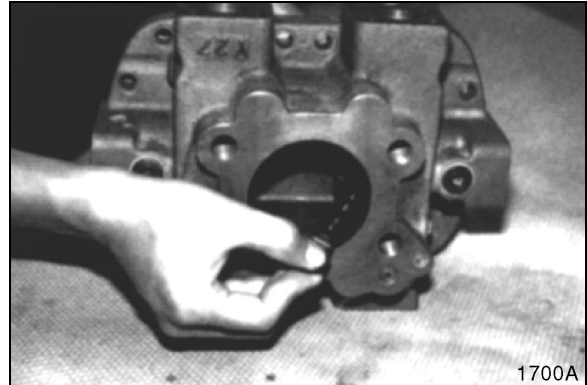

Figure 106
2. Insert rod into piston from inlet side. See Figure 106.